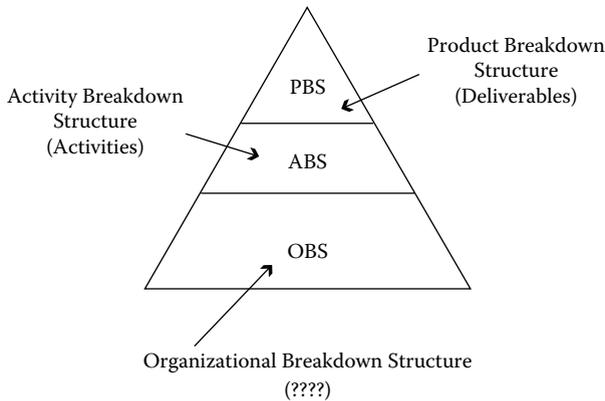

Figure O.1 Earliest version of the WBS.
My first knowledge of the WBS was when an associate described FTP (File Transfer Protocol) site — an early form of the Internet. He described a diagram (Figure O.1) displaying the WBS as composed of three distinct components: (1) the Product Breakdown Structure (PBS), (2) the Activity Breakdown Structure (ABS), and (3) the Organizational Breakdown Structure (OBS).
This original diagram (Figure O.1) made clear the relationship between the deliverables (PBS) and the activities (ABS) that produce the deliverables. However, it did not make clear what the OBS was and how it related to the other two components. Later interpretations of the WBS seemed to make the tie-in among all three components. Most articles, books, and even most of the many U.S. Government